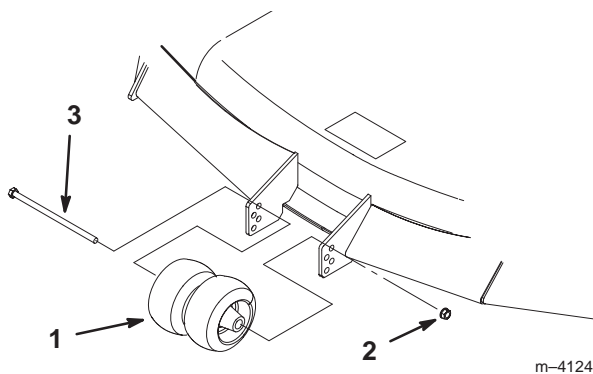

Figure 24
2. After adjusting the height-of-cut, remove the bolt and nut (Fig. 24).
3. Select a hole so that the gage wheel is positioned to the nearest corresponding height-of-cut desired (Fig. 24).
4. Reinstall the bolt, center rollers, and nut (Fig. 24).